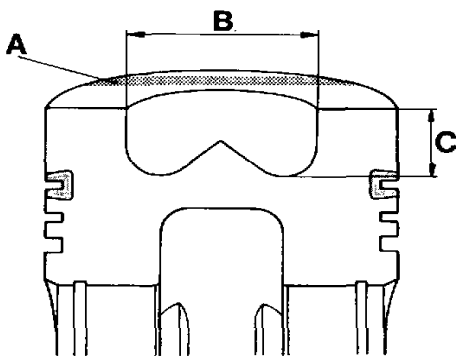

Fig. 26. Type of piston
**Piston marking:** See fig. 26 (applies to 60 series).